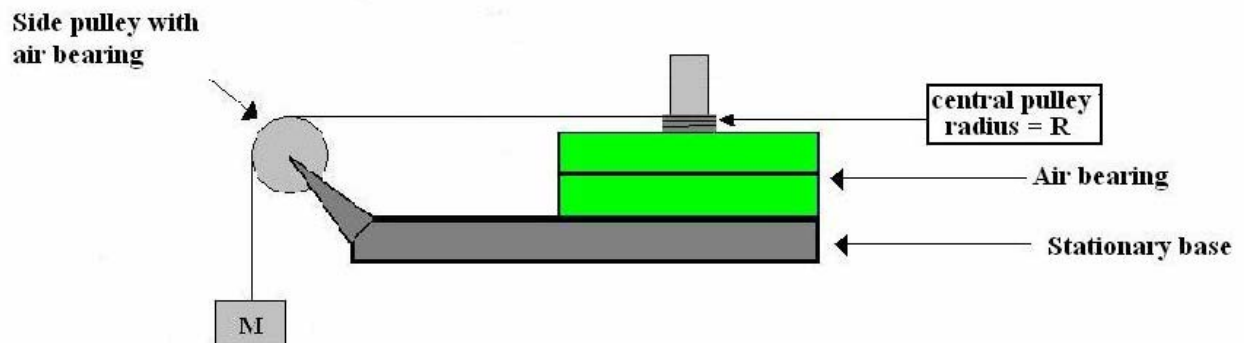

Figure 1
The experimental apparatus is shown in Figure 1 below. A light string (negligible mass) is wound around a central pulley of radius R ; it passes over a side pulley and is attached to a mass M . Compressed air is supplied to the apparatus making the rotating central pulley and the disk to which it is attached (shown in green in figure 1) rotate with very little frictional losses. The side pulley also is supplied with compressed air to minimize frictional losses. The rotating disk (shown in green in Figure 1) has alternating black and white bars on its circumference which are detected by a photo-diode detector as they sweep past it. The computer then uses a program written in the LabVIEW programming language to create a data table containing the angular velocity of the rotating disk and the corresponding times. You can then open the data table, copy it and paste its contents into Kaleidagraph. Recall the slope of the angular velocity versus time plot is the angular acceleration (typically denoted by the Greek letter α) of the rotating disk. A desktop timer will be used to measure the time the mass M takes to accelerate to the floor. A meter stick will be used to measure the linear displacement of the mass M .
If the hanging mass M in Figure 1 is released from rest and allowed to fall a distance h to the ground, it will have an acceleration equal in magnitude to the tangential linear acceleration of
1. Turn on the air supply to the rotational apparatus and make sure the string passes over the side pulley as shown in Figure 1 and that the string is taught with the hanging mass M just barely touching the floor. The 0 cm end of the meter stick should be paced on the floor ($y_i = 0.0\text{cm}$).
3. Use equation (2) and Excel to calculate the radius of the central pulley R.